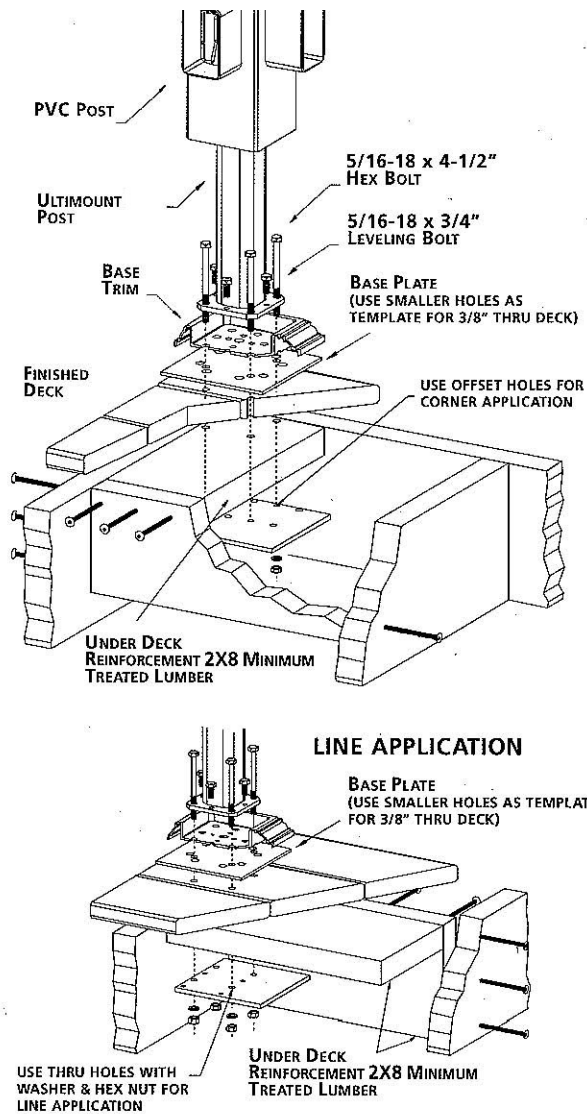

Figure 2 - UltiMount™ ProSpec Installation in a Wood Deck
7.3 The UltiMount[™] ProSpec post mount system utilized with 36" high guards may be mounted in a wood deck or anchored to concrete and/or steel with approved anchors. Installation in wood decks shall be in accordance with the manufacturer's installation instructions (see Figure 2).